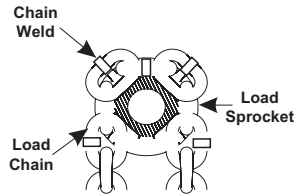

fig.3
5. Install chain by running a piece of wire or string between chain guide roller and load sprocket and then over and around the load sprocket. Tie the chain to the wire or string and pull it into the hoist so that the first link is standing on edge in one of the slots of the load sprocket, with the weld away from the sprocket (see fig. 3). Operate hoist in the UP direction, pulling about a foot of chain around the sprocket and out the hoist. Remove the cotter pin from the slack end pin and slide the pin to one side. Pull the end of the chain under the chain guide roller and hook the last link over the slack end pin, being sure the chain is not twisted. Slide the slack end pin back into position and install the cotter pin through it.